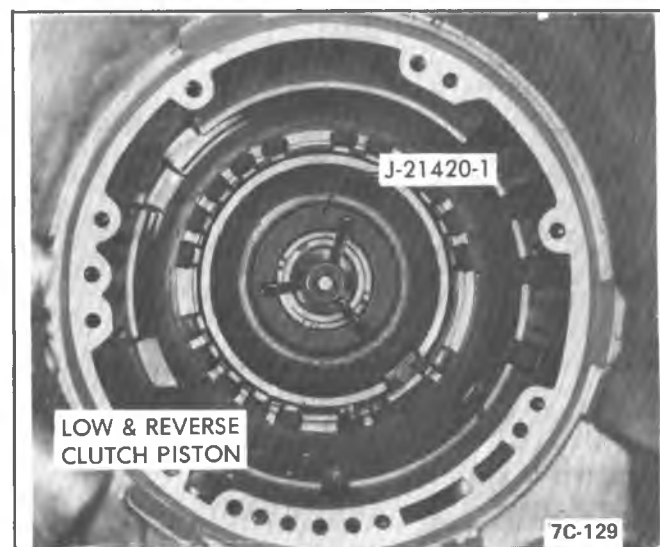

Figure 7A3-60 Remove Lo and Reverse Piston Snap Ring
2. Remove low and reverse clutch piston assembly. Aid removal with the use of compressed air in passage shown. See Figure 7A3-61.